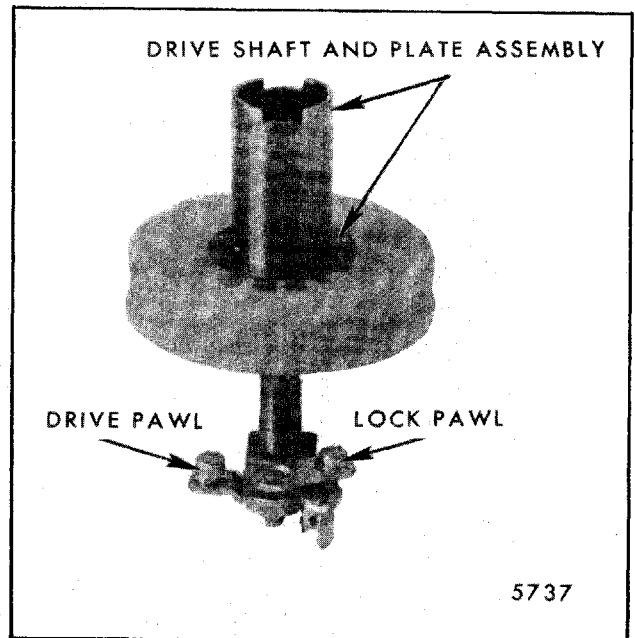

Fig. 2-95-Gear Removed
1. Position drive and lock pawls on drive plate as shown in Figure 2-95.
2. Slide gear and tube over the drive plate shaft. Move drive and lock pawls as required to allow their respective pins to fit in the gear guide channel (Fig. 2-95).